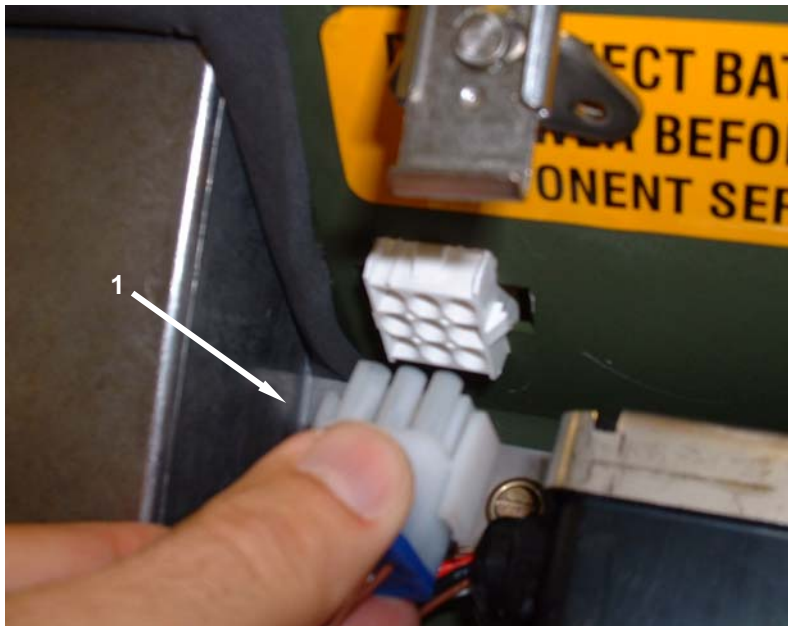

Figure 10. Prepare for Movement – Disconnect Battery.
2. Disconnect battery at connection (**Figure 10, Item 1**).